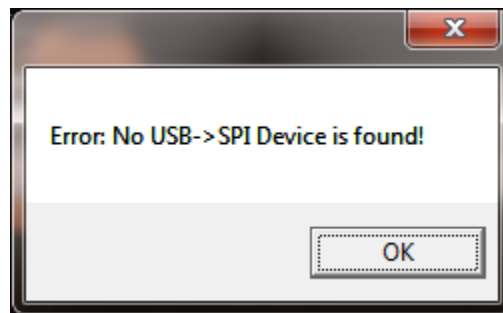

Figure 36: Error message dialog
- If an error message dialog shows up as shown below in Figure 36, press “Source FW Bin” button to load firmware binary file of the source firmware again. Then press “Burning Firmware Bin Files”. Repeat this step until it works.